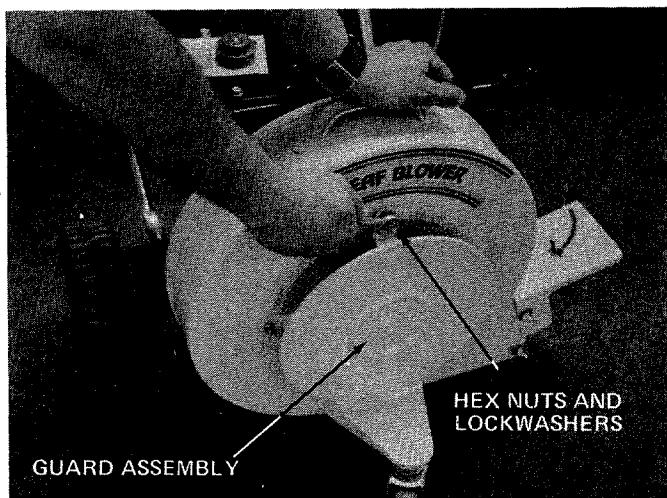

FIGURE 10
1. Remove the guard assembly by removing four hex nuts and lock washers. See figure 10.